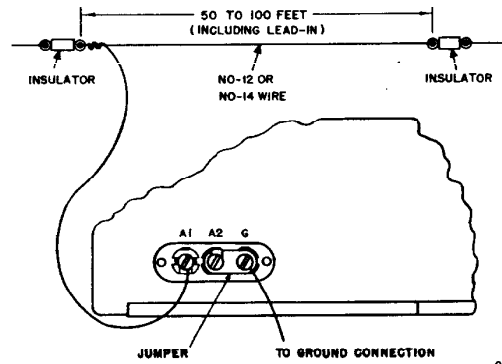

Fig. 2. Single Wire Antenna Installation
1. Construct the antenna as shown in Fig. 2 and connect it to A1.